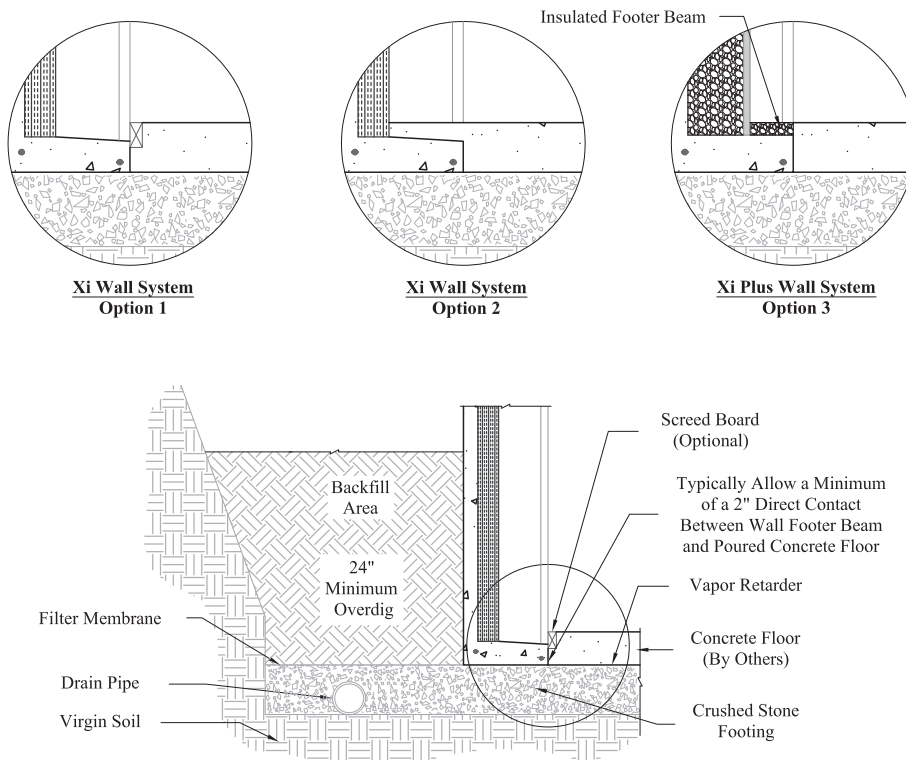

Figure 11
- For the Xi Wall System, fasten a piece of lath at the desired height of the concrete floor to form a screed board (see Figure 11 - Option 1), or omit the screed board and allow concrete floor pour to flow between the stud cavities on top of the Superior Walls footer beam (see Figure 11 - Option 2).
- For the Xi Plus Wall System, pour a 4" slab, using the upper edge of the insulated footer beam as a guide (see Figure 11 - Option 3).
- Typically allow a minimum of a 2" direct contact between wall footer beam and poured concrete floor. (See Figure 11 below.)